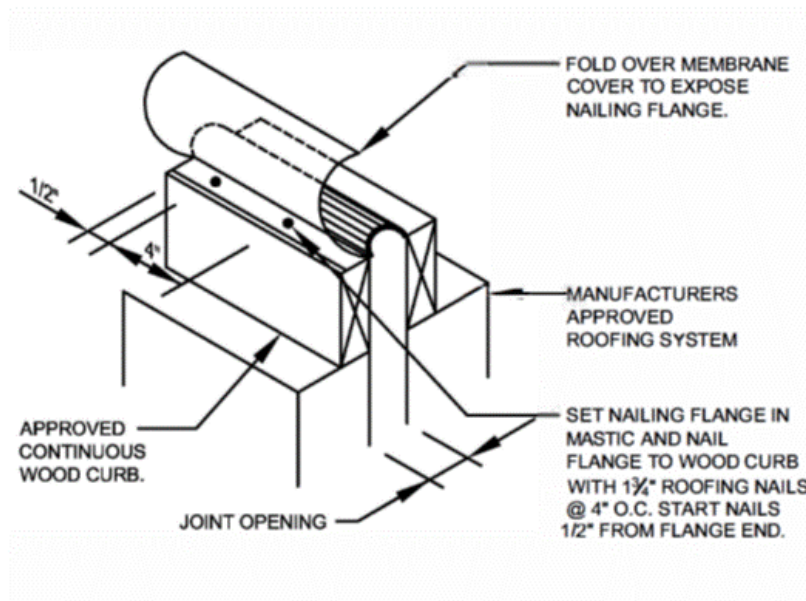

Figure 1
1. Set flange in membrane compatible mastic and nail to roof curb w/ (1) 1 $\frac{3}{4}$ " roof nail at 4" o.c. Start nails 1/2" from flange end. **See Figure 1**